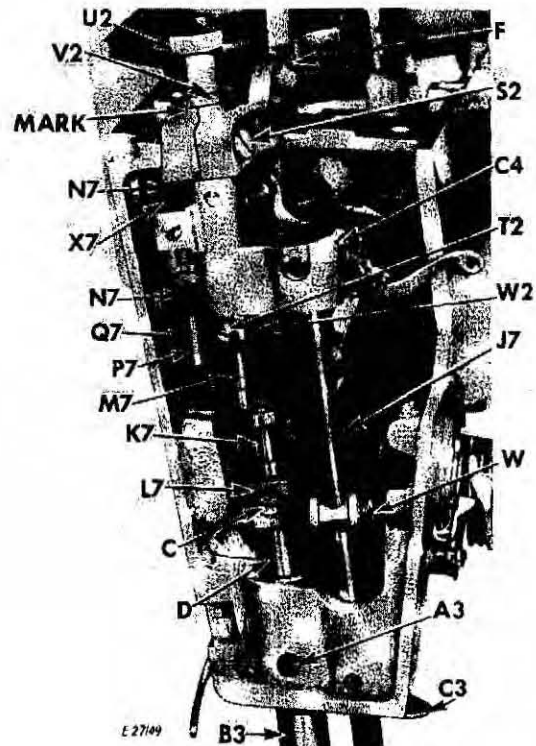

Fig. 319. Needle Bar Assembly
(See Fig. 319)
1. Insert needle bar down through bushings, as shown in Fig. 319.
4. Replace pressure regulating thumb screw **U2**, Fig. 319.
6. Align presser foot with slots for feed dog in throat plate, as instructed on page 128, and securely tighten set screw **C**, Fig. 319.
4. Mark edge of eccentric hinge pin **V2** as shown in **Figs. 319 and 320** so that its position in relation to casting may be readily regained.